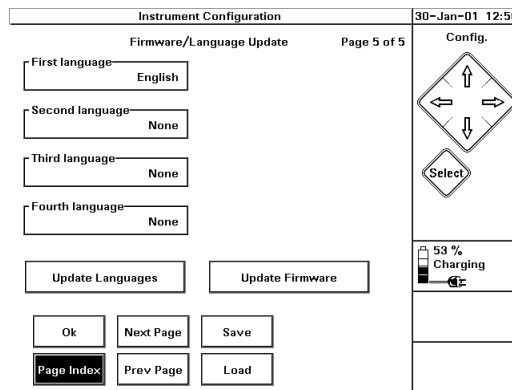

Figure 23 Firmware/Language Update configuration page
- 4 You see a screen where you can set the languages or Update the Language or Firmware (Figure 23).